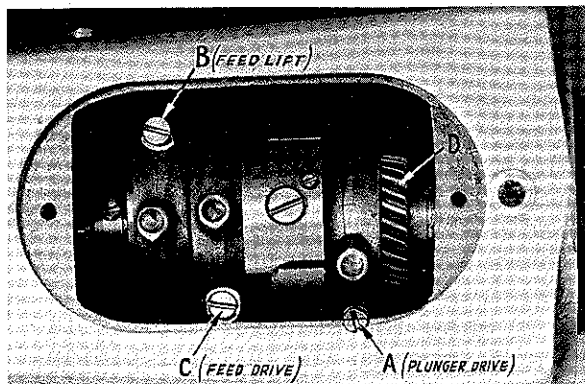

Fig. 1
Access to the connecting rod adjusting screws is through the opening in the top of the arm (Fig. 1). Remove screws and arm cover plate. Tighten screw (A) in plunger drive connecting rod until machine begins to bind while handwheel is being turned in the operating direction, which is away from the operator. Then loosen screw until machine turns freely. Repeat procedure for feed lift connecting rod and feed drive connecting rod, screws B and C respectively. Replace the cover plate and screws.
You will note that the left hand penetration of needle is into the lining and at this time the lower plunger does not raise high enough to meet the needle. Therefore, the timing of the needle and plunger can only be accomplished on right hand penetration of needle. You will also note that the movement of needle bar is from side to side on every other penetration of the needle, which is necessary in joining the lining to body of garment. In case the plunger itself gets out of time, it may be retimed through the plunger pinion (D, Fig. 1) on the main shaft. The plunger is set correctly if the LOWEST point to which the plunger descends is the same on two consecutive revolutions of the handwheel.